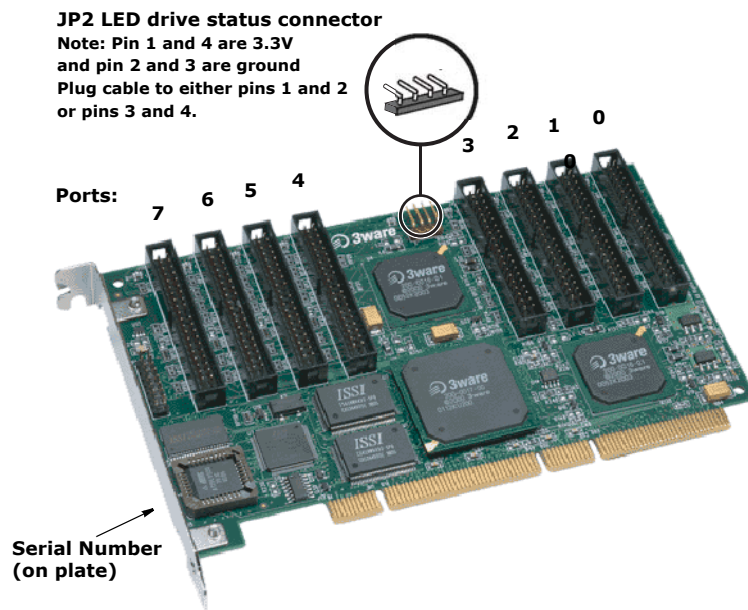

Figure 5. 8-Port Escalade 750x-8 ATA RAID Controller Layout
- 1 Connect the interface cables supplied with the product to the ATA RAID Controller. See Figure 5.